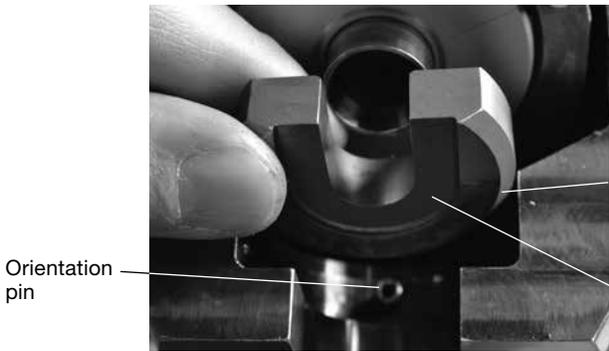

Fig. 10 Installing the Spacer
3. Install the spacer into the retainer with the recessed face facing away from the puck, aligning the orientation pin and sliding the spacer down until it is flush with the retainer surface. Fig. 10 and 11.